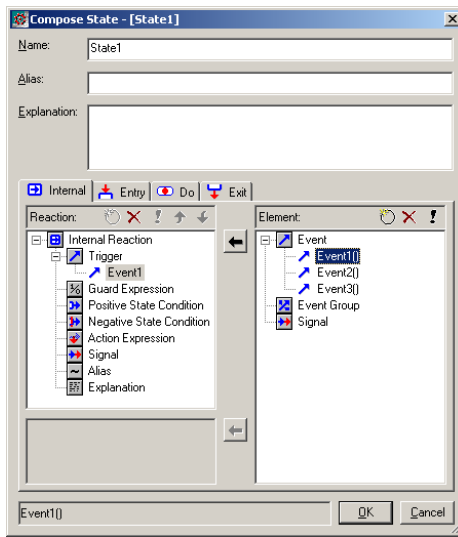

Figure 52: Compose State dialog box, Event1 added
- 6 In the Reaction section, click the element type to use. For example click Trigger in the list. If state reactions have been defined, a list of the defined triggers is displayed in the Element section. See *Figure 52*, page 69 where three events have been defined.
- 7 In the Element section, double-click the element to use. The element will be moved to the Reaction section and applied to the state reaction. See *Figure 52*, page 69.
To delete a state reaction from a state, select the reaction to delete in the Reaction section of the Compose State dialog box, and click the Delete button on the toolbar (see *Figure 52*, page 69).